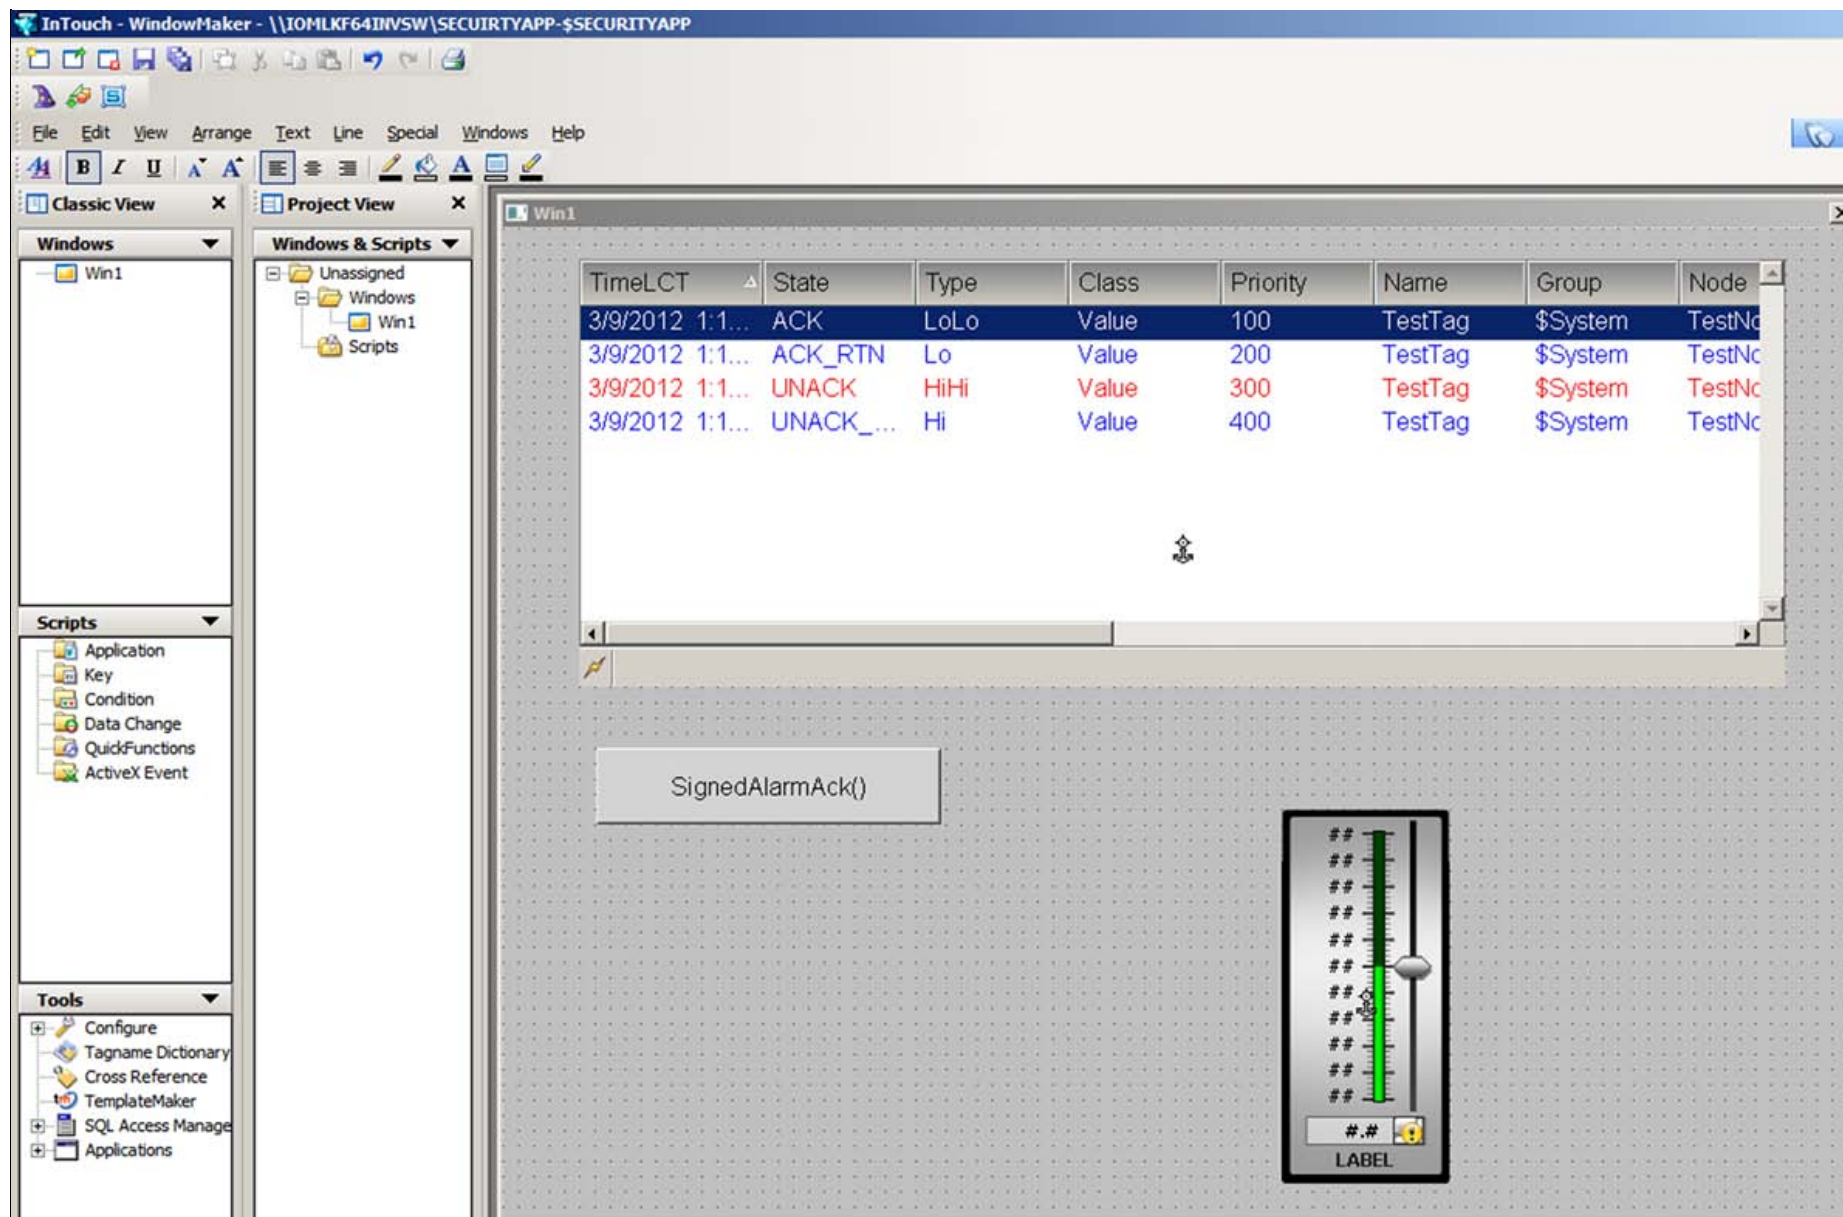

FIGURE 20: SLIDER AND BUTTON
13. Embed the SliderBasic from the ArcestraA Symbol Library (Figure 20 below):